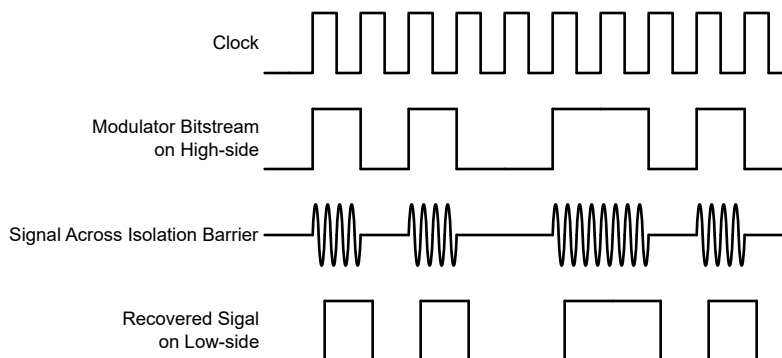

Figure 7-3. OOK-Based Modulation Scheme
The AMC1306M25E uses an on-off keying (OOK) modulation scheme, as shown in Figure 7-3, to transmit the modulator output bitstream across the SiO₂-based isolation barrier. The transmit driver (TX) shown in the Functional Block Diagram transmits an internally generated, high-frequency carrier across the isolation barrier to represent a digital *one* and does not send a signal to represent a digital *zero*. The nominal frequency of the carrier used inside the AMC1306M25E is 480 MHz.